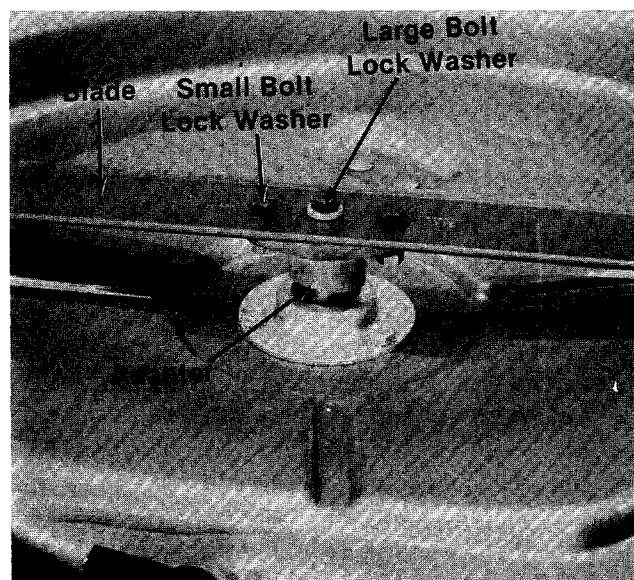

FIGURE 45.
1. Remove large bolt and lock washer which holds the blade and adapter to the blade spindle. See figure 45.